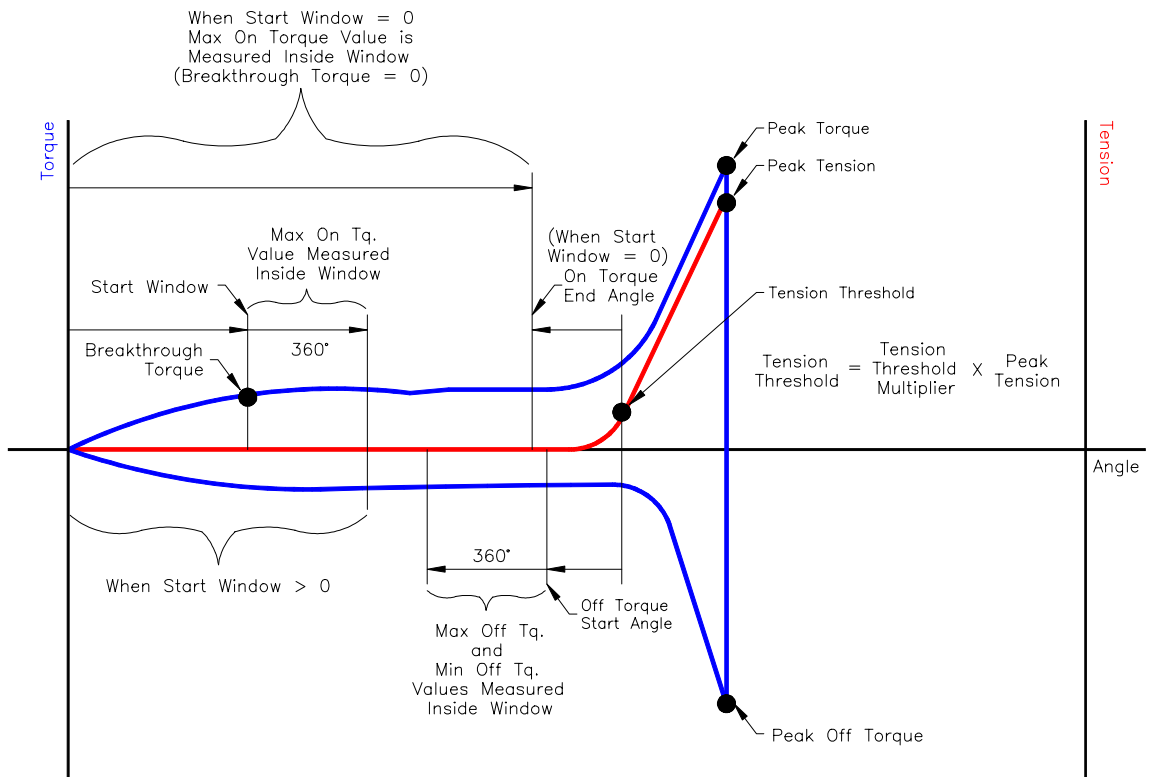

Figure 3-1. Locknut Parameters Illustrated
- **Locknut-No Clamp Load Attained.** This is used for testing only the thread torque on a fastener. You need to specify the number of degrees you want to travel up the fastener (*Max Angle*), and the *Start Window* in degrees. If the *Start Window* is set to zero, then the *Breakthrough Torque* is not calculated. If the *Start Window* is greater than zero, the *Breakthrough Torque* will be found as the maximum torque within the specified range. This test automatically sets the recording threshold to a negative number so that both data recording and the maximum angle count begin immediately. Refer to Figure 3-1 for an illustration of the Locknut Setup Parameters.
reads data in the “on” direction and stops when it reaches the clamp load level specified in the Set Control Limits portion of the program (under the Set Limits and Fastener Data section). It then reads data in the “off” direction until the fastener returns to its original position. This test automatically sets the input torque threshold to a negative value. This allows recording of data immediately when the recording starts. The Number of Cycles defaults to 1. Multiple cycles can be selected but each cycle is considered a sample for statistics. When this option is selected, you are prompted for the following test parameters (refer to Figure 3-1):
When the *Start Window* value is set to zero, the program includes the on-torque readings from the start of motion to the end of the measuring window. No *Breakthrough Torque* will be calculated in this mode. Setting the *Start Window* to a number greater than zero will enable the measuring of *Breakthrough Torque*. The number entered here is the number of degrees from the start of motion in which the peak breakthrough torque will be measured (refer to Figure 3-1). After the fastener has been rotated that number of degrees, the prevailing on-torque measurement begins and lasts for 360 degrees of rotation. The breakthrough value will be reported on the Limit Results report if these readings are stored to memory.
When selecting this option, you are prompted for several parameters, including *Tension Threshold Multiplier*, *ON* and *OFF Torque Angle*, and *Start Window* angle (refer to Figure 3-1). These parameters have the same factory default values as described in the Locknut Attaining Clamp Load notes above. These values may be changed to allow proper measurement of the prevailing torque. This recording mode turns off the AutoPlot feature and selects the AutoSave Limit Results Only and the AutoSave feature. It also sets the torque threshold to a negative number.